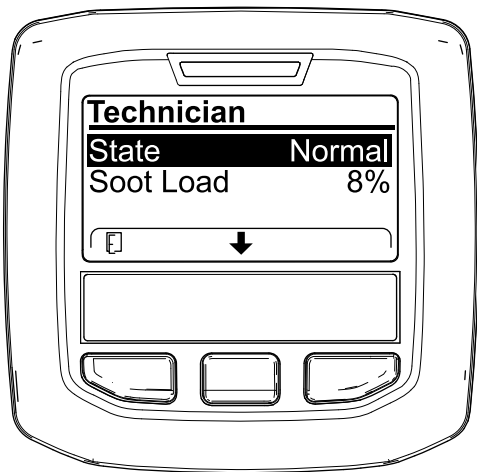

Figure 66
- Use the DPF operation table to understand the current state of DPF operation (Figure 66).